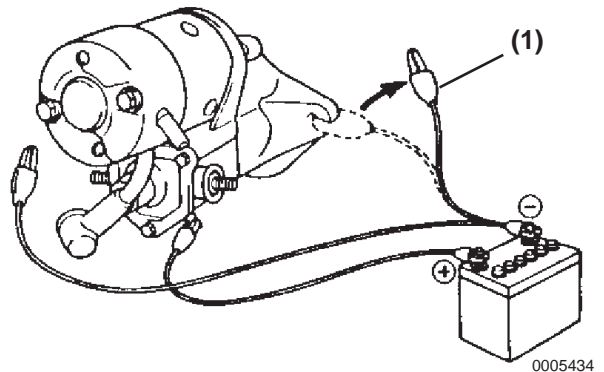

Figure 10-46
Disconnect the negative (-) lead from the switch body (Figure 10-46, (1)). Check that the clutch pinion gear returns to the inside. If the clutch pinion gear does not return to the inside, replace the magnetic switch assembly.